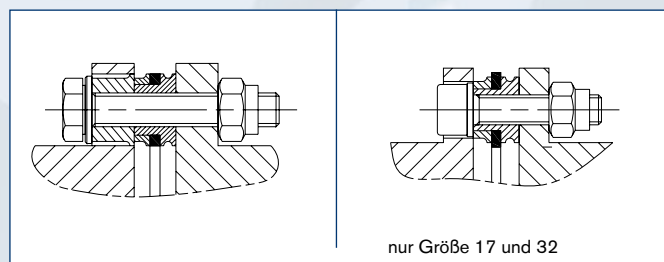

Abb. 8: Anordnung der Baugruppe
1. Once the hubs are aligned in the axial, angular and parallel directions, install the disc pack and sleeve. Figure 8 show the hardware orientation for each coupling type.